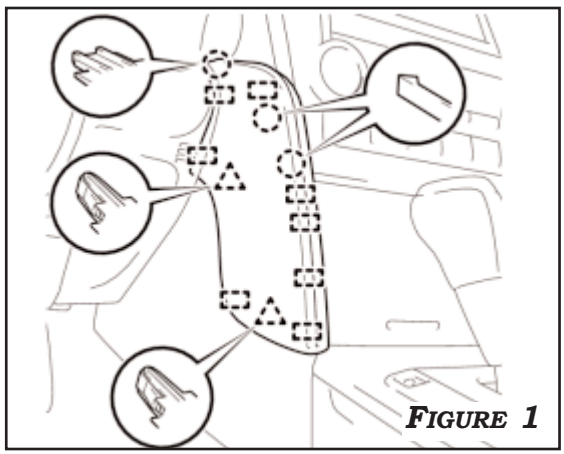

FIGURE 1
1. DISENGAGE CLIPS TO REMOVE THE LEFT AND RIGHT SIDE FRONT PANEL GARNISH. **FIGURE 1**